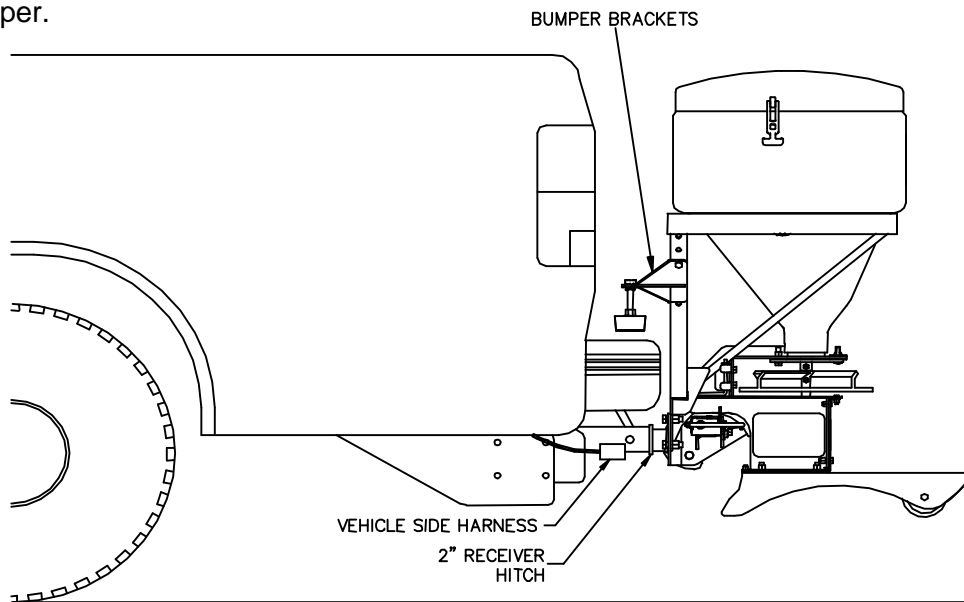

Figure 11. Spreader Attachment (RT3 Option Kit Installed)
- 7) Rotate Spreader upward until RT3 mechanism locks into place (See Figure 11).